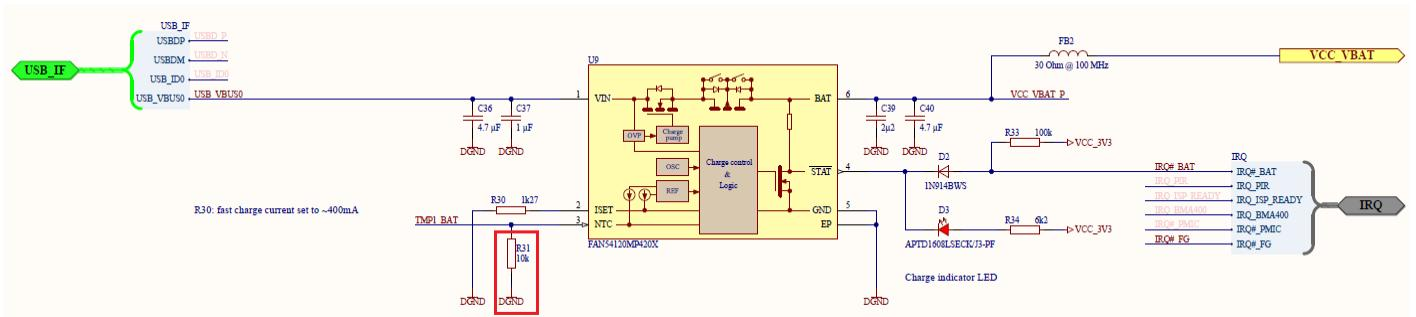

Fig.8 R31=10k assembled by default in order to emulate NTC temperature sensor, normally placed close to the battery
- FAN54120 requires for its operation the temperature sensing composed of NTC temperature sensor. As the battery isn't part of the delivery, for proper operation of the circuit, 10k resistor in place of R31 provides emulated function (Fig.8).